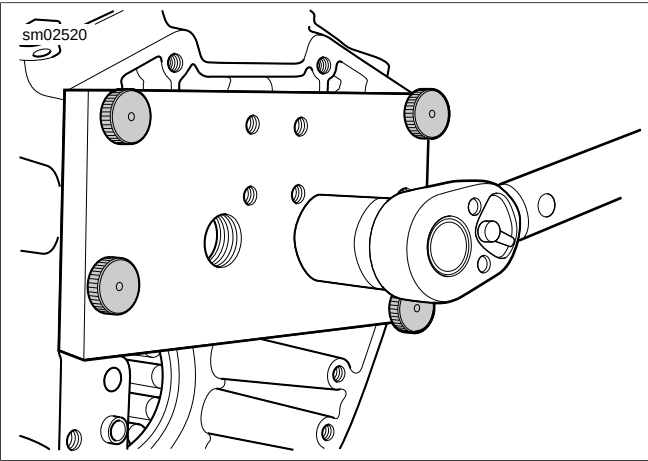

Figure 3-107. Bearing Installation
- a. See Figure 3-107. Turn forcing screw clockwise to press needle bearing into bore.